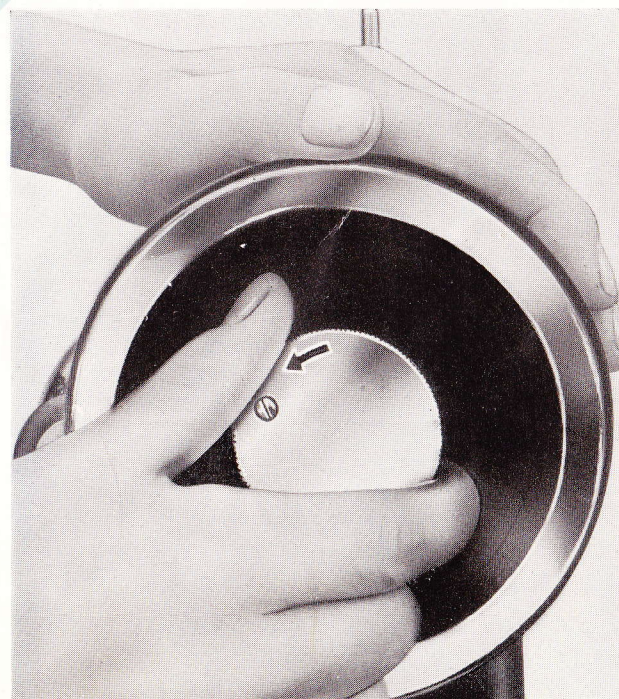

Fig. 1
1. To wind the bobbin the balance wheel must be disconnected from the stitching mechanism. Hold the balance wheel with your left hand and turn the stop motion knob (Fig. 1) toward you with your right hand. This will permit the balance wheel to turn freely while the needle bar remains motionless. The balance wheel is now disconnected for the bobbin winding operation.